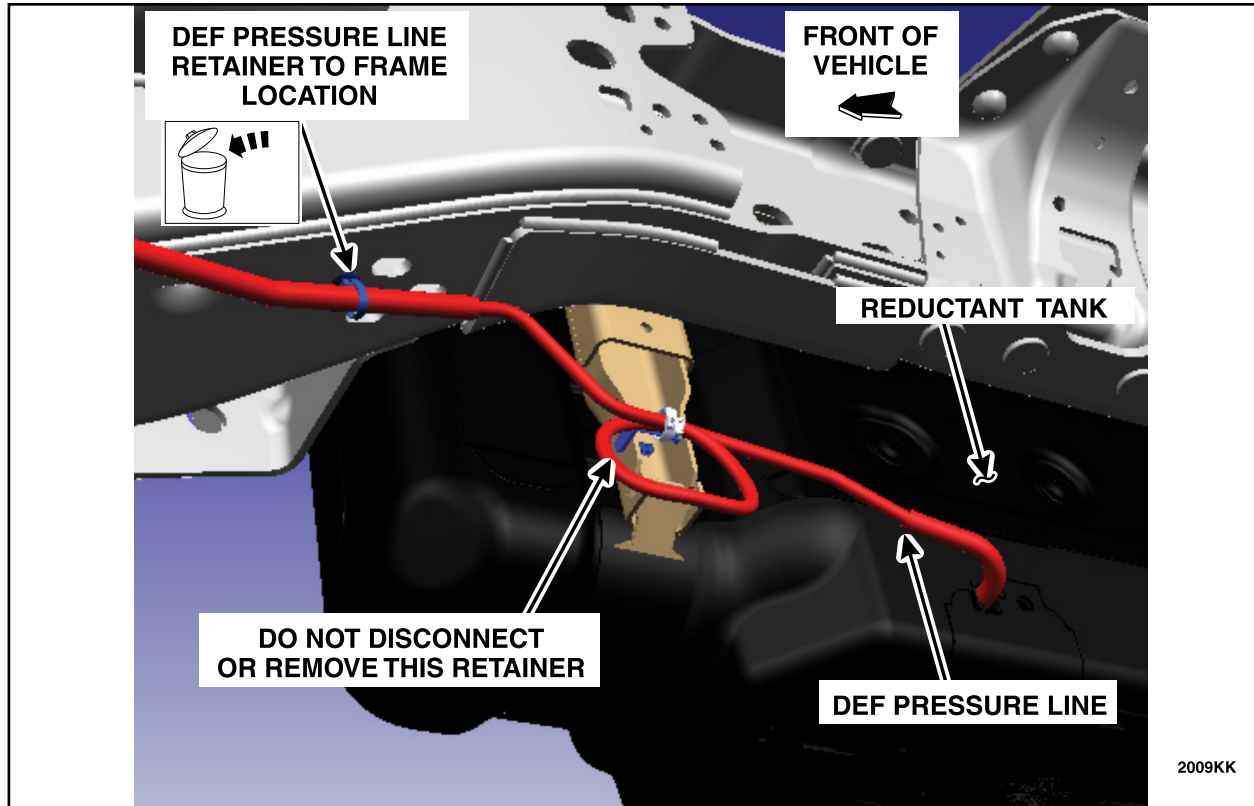

FIGURE 31
1. Detach the single DEF pressure line retainer from the RH lower frame as shown in Figure 31. Then, completely remove and discard the retainer from the DEF pressure line.